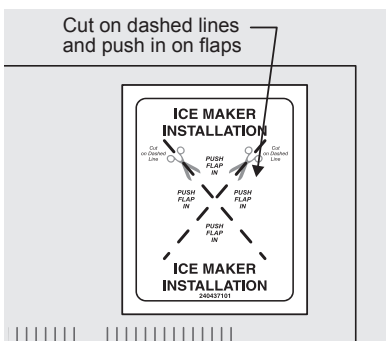

Figure 9
- Locate the Ice maker installation label on the rear outside right top corner of the refrigerator. Cut the label on the dashed lines, and push flaps inward until they stick to the unit. See Figure 9.